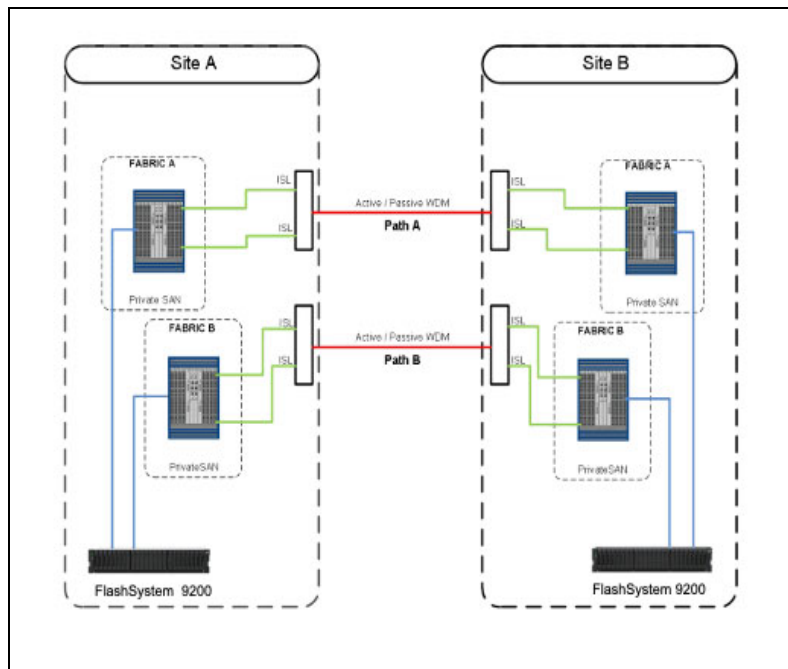

Figure 2-18 Configuration 2: physical paths not shared among the fabrics
- In Configuration 2, shown in Figure 2-18, ISLs of fabric A are attached only to Path A, while ISLs of fabric B are attached only to Path B. In this case, the physical paths are not shared between the fabrics.